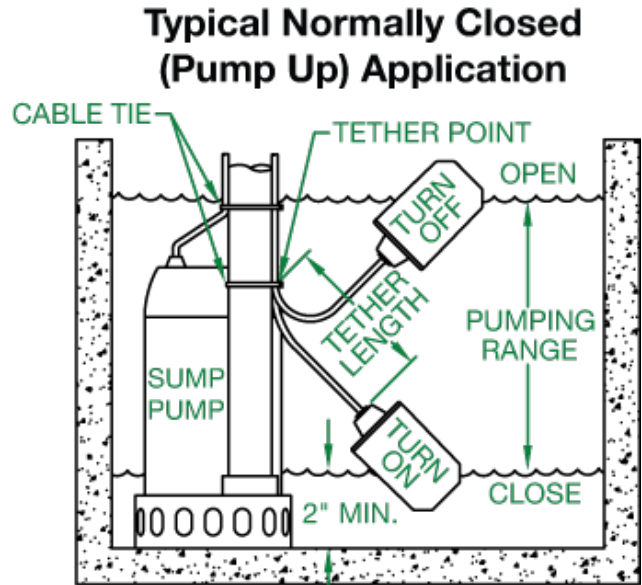

Fig. 2
1. Attach cord, using a cable tie, to any convenient rigid surface as illustrated. This is known as the tether point. Do not tighten until both turn-on and turn-off levels are established. (See Fig. 2)